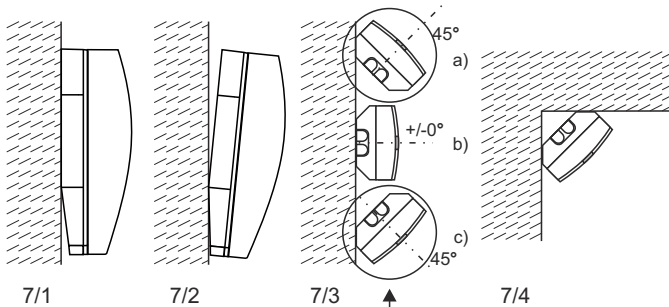

Fig. 7 Backtamper here (a and c) not possible
Mounting as per Fig. 7/2
6.3 Mounting possibilities (Fig. 7 and 8)
- 0° Vertical at a 0° downward angle (Fig. 7/1)
- 3° Vertical at a 3° downward angle (Fig. 7/2)
- 45° Horizontal at a 45° angle to the left or right (Fig. 7/3)
- Corner mounting (Fig. 7/4)
Should the mounting possibilities in accordance with Fig. 7 not suffice, the detector can be mounted on the "Adjustable joint".
Please note, that the backtamper is not possible when mounting according to Fig. 7/3a and 7/3c.